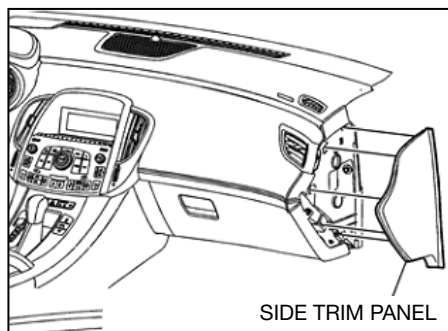

Fig. 17
1. Remove side trim panel (see Fig. 17).